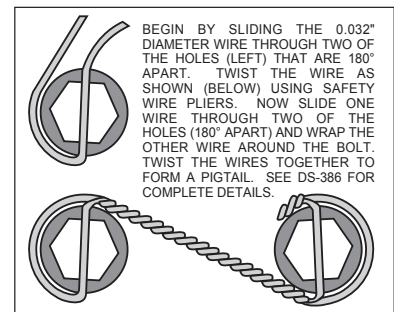

Figure 5. Safety Wire Diagram
- With the larger I.D. side of the rotor (4) facing away from the hat (3), bolt rotor (4) to hat (3) through the backside of the rotor using washers (5) and bolts (6). Using an alternating sequence, apply red *Loctite*® 271 to the threads and torque bolts to 155 **in-lb**. For an added measure of security, the bolts may be safety wired using standard 0.032 inch diameter stainless steel safety wire as shown in Figure 5. Please refer to Wilwood's data sheet DS-386 (available at www.wilwood.com/Pdf/DataSheets/ds386.pdf) for complete safety wire installation instructions.
- Slide the rotor registration adapter (18) onto the axle register on the axle flange with the smaller O.D. facing toward the rotor/hat (3). Align the correct hole pattern in the hat with the stud pattern on the axle flange. **NOTE:** Some OEM and aftermarket axles come with stud sizes larger than 0.50" diameter. Verify stud size and have a qualified machine shop drill the hats to the correct size, if necessary. Slide the hat/rotor assembly (3 and 4) over the wheel studs covering the bracket kit assembly (1) and against the axle flange face. Check to be sure the hat seats squarely against the hub. Install a couple of lug nuts (finger tighten) to keep the rotor/hat assembly in place while continuing with the installation.